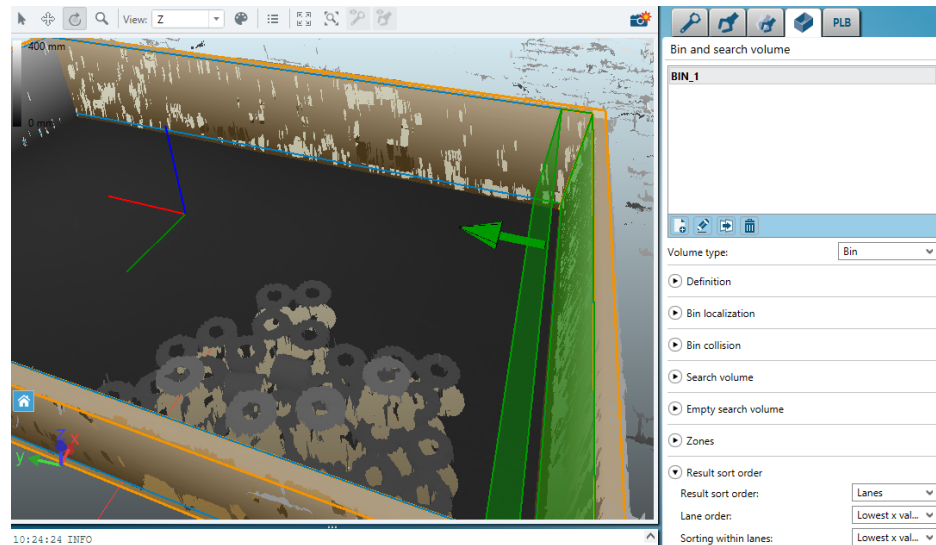

Figure 73: Configuring lanes
- ✓ The defined lane is visualized as shown in figure 73.
If you selected **Lanes**: follow the steps in figure 73, then continue with step 2..